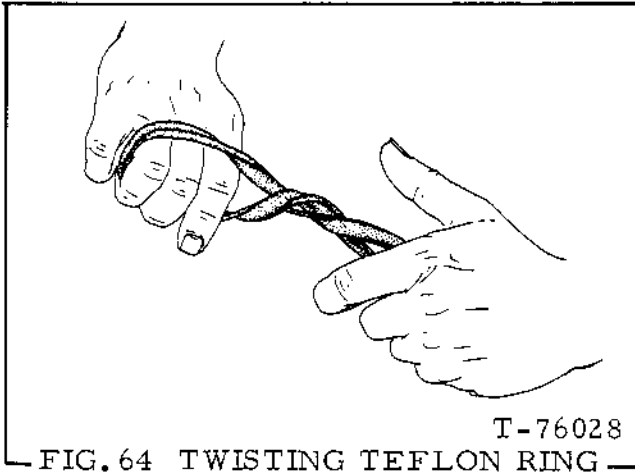
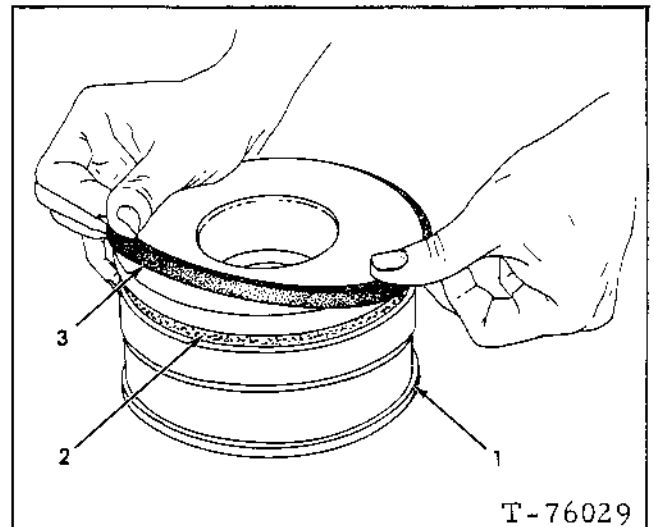

FIG. 64 TWISTING TEFLON RING
FIG. 65 INSTALLING TEFLON RING
Fig. 63. Install rubber seal ring (7) in the narrow groove in piston (6). Teflon seal ring (8) may be difficult to install. To make it more pliable, twist the ring as shown in Fig. 64, and then install the Teflon ring over the rubber ring, as shown in Fig. 65. In a few minutes the Teflon ring will be back to its original shape. Refer to Fig. 63, and install wear ring (5) into the wide groove in the piston.